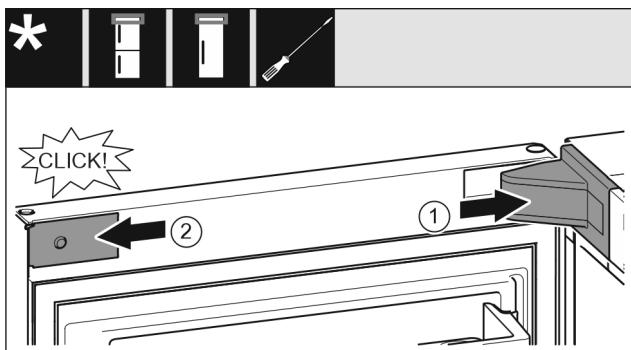

Fig. 26
- ▶ Position the swap bearing block cover *Fig. 26 (1)* and snap it in. You may need to push it carefully apart.
- ▶ Attach the panel *Fig. 26 (2)* from the side and snap it on.